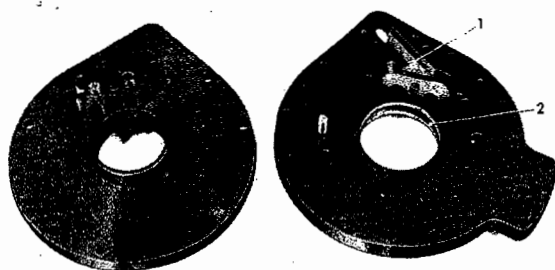

FIG. 12 THE PUMP BODY AND COVER PLATE SEPARATED
2. Release the screws set into the face of the cover plate and using two screws as extractors, separate the cover plate and pump body, Fig. 12.